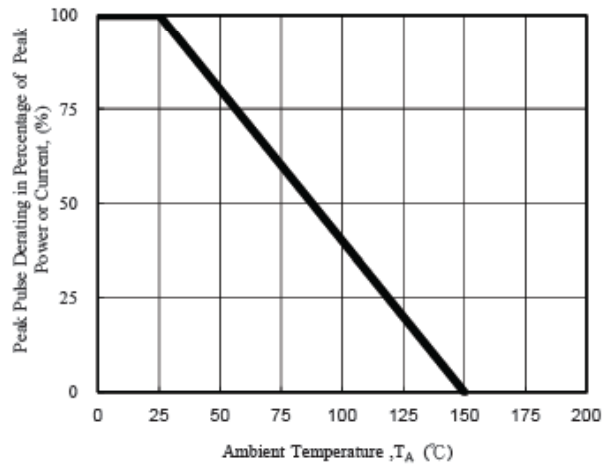
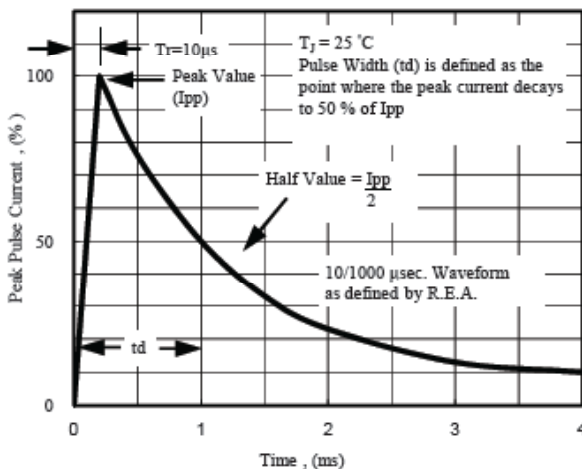

Fig. 1 - Pulse Derating Curve
Fig. 5 - Pulse Waveform
1) Non-repetitive current pulse per Fig.5 and derated above $T_A=25^{\circ}\text{C}$ per Fig.1 ;